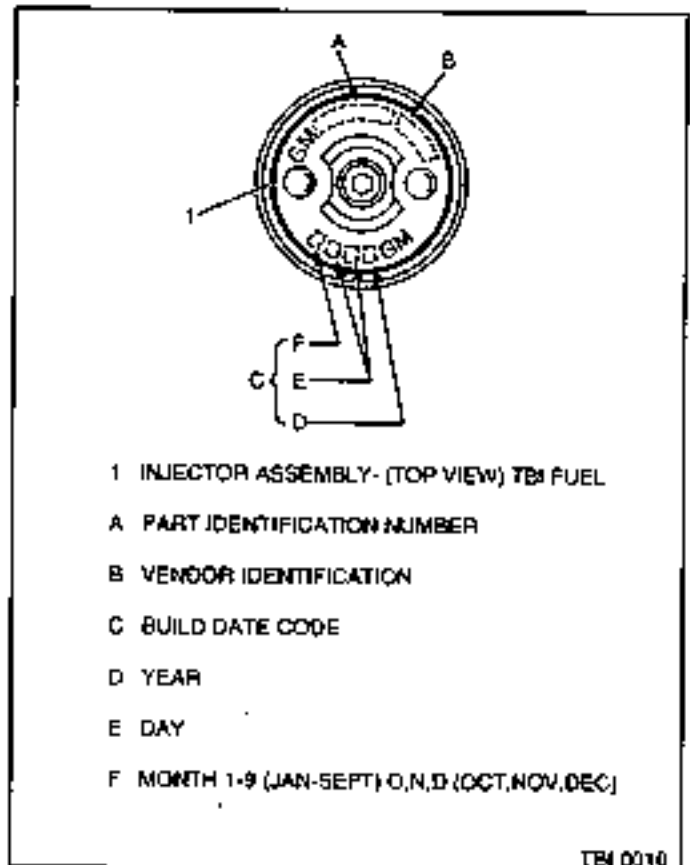

Figure 3-17 - Fuel Injector Part Number Location
- Be sure to replace the injector with one having an identical part number. Injectors from other models can also fit in the TBI unit, but are calibrated for different flow rates. (Refer to Figure 3-17 for part number location).